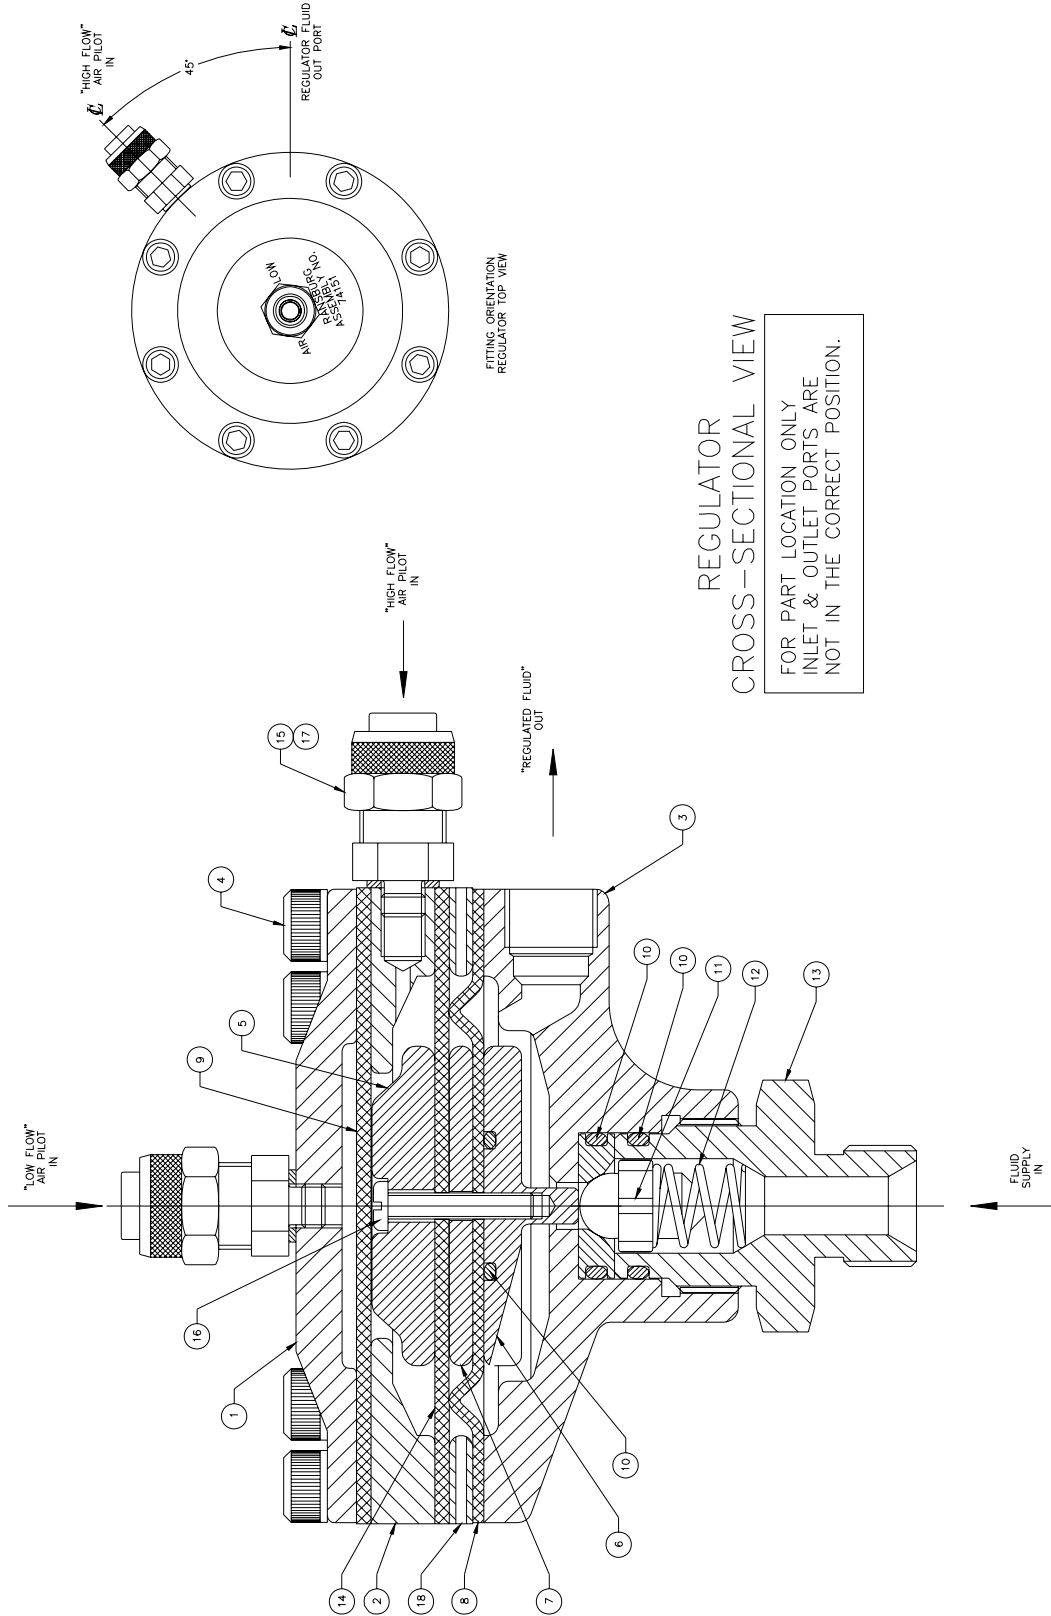

Figure 1: Regulator Cross-Sectional View
DISASSEMBLY PROCEDURES (Refer to Figure 1)
(Refer to Figure 1)
13. Place Item 2 (spacer ring) on the top of Item 14 (center diaphragm) with largest opening facing "DOWN". Rotate Item 2 (spacer ring), without rotating the diaphragm assembly, so that the air pilot port of Item 2 (spacer ring) is 45° to the outlet port of Item 3 (lower housing) and all the clearance holes are aligned (see Figure 1).